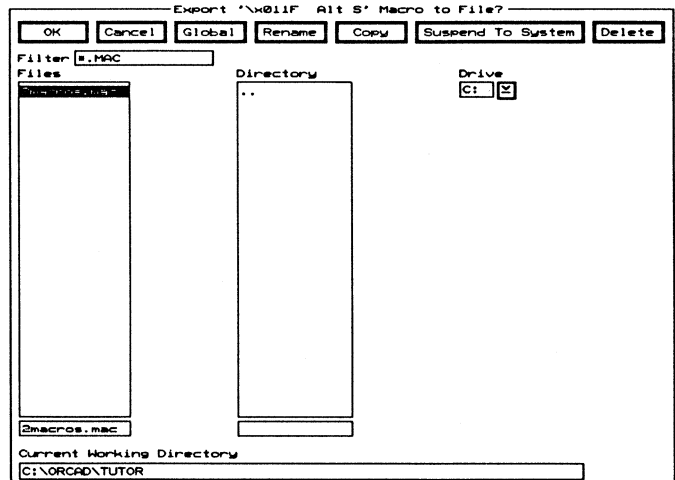

Figure 4-20. The **Export '\x011F Alt S' Macro to File** dialog box.
2. Select **Export**. The **Export '\x011F Alt S' Macro to File** dialog box displays (figure 4-20).